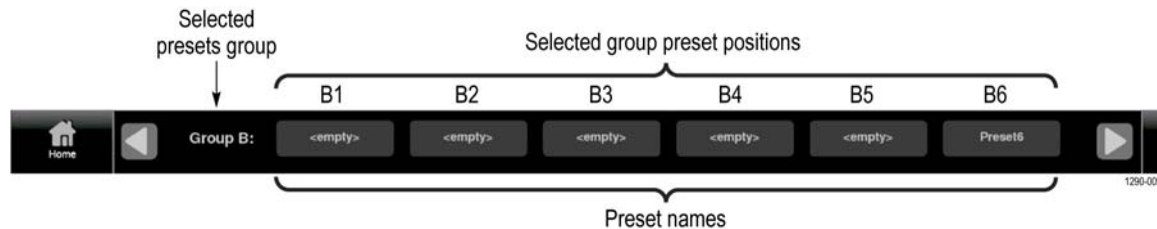

Figure 59: Preset selection controls (Group B shown)
- e. When you select OK, the preset name changes from **<empty>** to **Preset<number>**, where the number is the preset position within the preset group. (See Figure 59.)